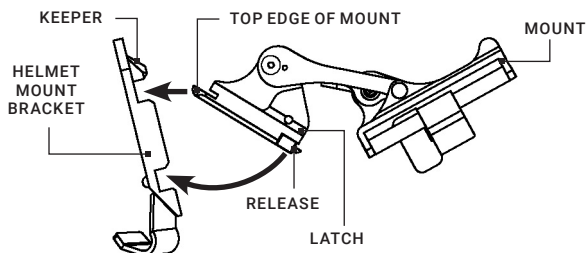

FIGURE 2-7. REASSEMBLY OF HELMET MOUNT
11. Insert the top edge of the mount under the keeper on the helmet mount bracket and rotate it downward until the latch clicks into place (Figure 2-7). To release the mount from the helmet bracket, press the release and pull it forward and down.